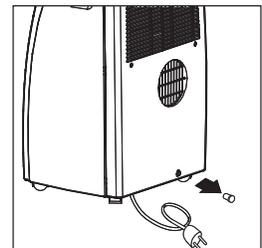

Fig. 30.
- To empty the internal circuit completely of water, remove the cap (fig. 30).